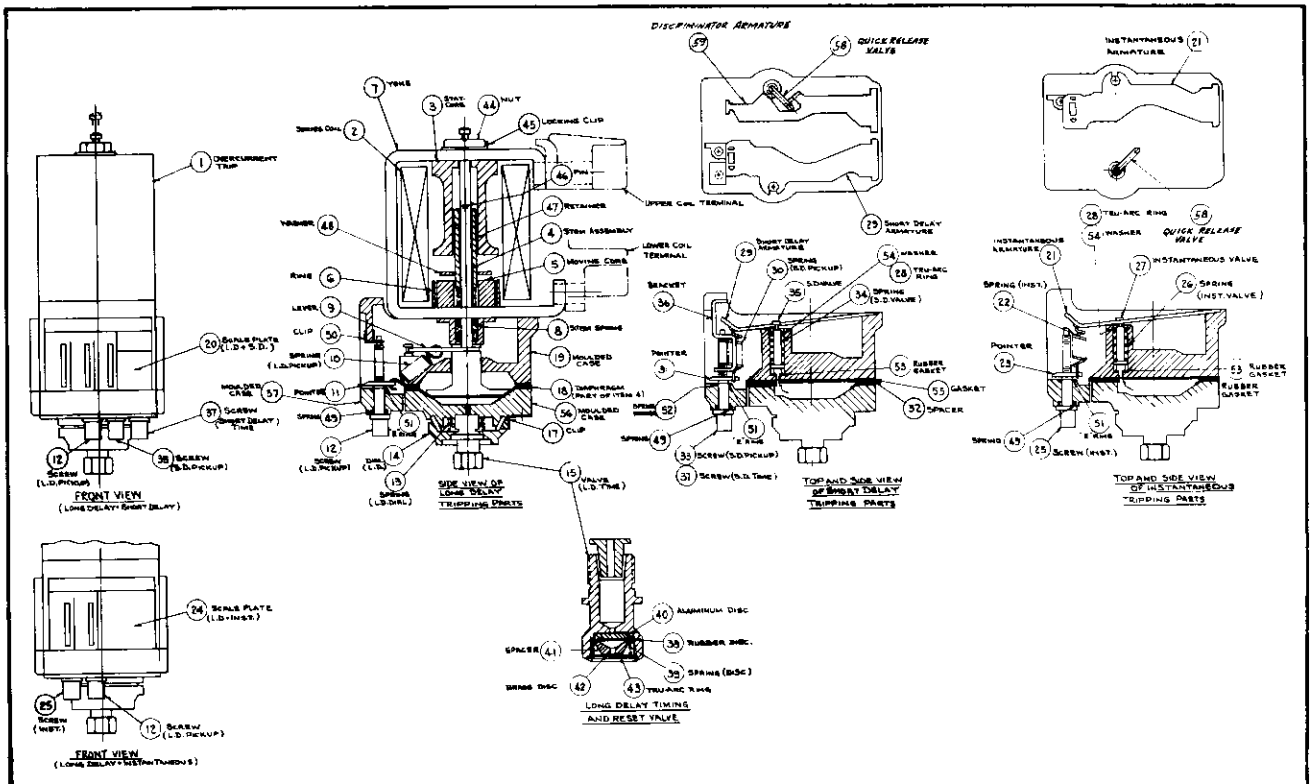

Fig. 6 - Cross-Sectional View of Series Overcurrent Tripping Device with Long Delay and Instantaneous Elements
To manually check the overtravel refer to Fig. 6. The air delay device can be made inoperative by opening the instantaneous valve (or the short delay valve in the case of selective type tripping devices). The valve is opened by lifting the instantaneous (or short delay) armature. A slot is provided in the side of the molded case and a small rod approximately 1/16 diameter can be entered through the side of the case and used as a lever to lift the armature. After the valve is blocked open, the trip plunger
As seen from the sectional view Figure 6, the magnet frame and coil assembly consists of a yoke, a coil, a stationary and moving core together with their necessary insulation.
chamber T by the various valves H and K. When the diaphragm has reached approximately 60 percent of its travel, a quick release valve (shown in Fig. 6) is mechanically opened. This quick release feature permits the full force of the magnet to be used for tripping the breaker after the timing cycle is completed. At higher currents when the attraction between the moving core C and the stationary core B is greater than the load on the spring inside of the moving core, the moving core will compress the spring and travel independently of the tripping stem F. This spring insures a constant force pattern acting on the diaphragm E. The reset valve is shown as G.
B. A quick release valve (shown in Fig. 6 - short delay tripping parts) which functions as described for dual overcurrent tripping device.
C. Discriminator armature, Fig. 6.
The discriminator operating linkage, Fig. 13 and the discriminator armature, Fig. 6 are used on the selective overcurrent tripping device to make the device behave as an instantaneous type tripping device while the breaker is being closed and for approximately 0.5 seconds after closing. During this period, the discriminator armature is free to lift the quick release valve and permit instantaneous tripping, if the current is greater than the discriminator armature pick-up setting. If the current does not rise above this value, the breaker remains closed and the discriminator linkage assumes a position which makes the discriminator armature inoperable and restores the selective tripping feature to the tripping device.
The long delay pick-up can be adjusted by means of P, Figure 10, also shown in Figure 6. The unit has been calibrated and the calibration plate marked at five settings, namely 80, 100, 120, 140 and 160 percent of the coil rating. The pick-up was placed on the 100 percent setting before shipment. A different setting can be obtained by carefully turning the adjusting knob with the help of a small screwdriver inserted in the slots for that purpose.
The long delay can be adjusted by means of the long time adjusting dial S, Figure 10, also shown in Figure 6. The dial adjustment is limited to slightly less than one turn. Two points have been calibrated at the factory and are indicated by white marks on the outer edge of the dial. The dial has markings from 1 to 10. When the higher-numbered white mark on the dial coincides with the white indicator on the front of the lower case, the tripping time will be the higher long delay value shown in seconds on the scale plate. Conversely, when the lower-numbered white mark on the dial coincides with the white indicator on the front of the lower case, the tripping time will be the lower long delay value shown in seconds on the scale plate. These tripping times are calibrated with currents which are 600 percent of the coil rating applied. The dial settings are scribed on the scale plate under long delay dial setting heading.
The instantaneous pick-up can be adjusted by means of knob N, Figure 10, also shown in Figure 6. The instantaneous pick-up has been calibrated at 8 and 12 times or 5 and 10 times the coil rating at the factory. The adjusting knob can be turned carefully with the help of a small screwdriver inserted in the slots for that purpose, if a different setting is desired.